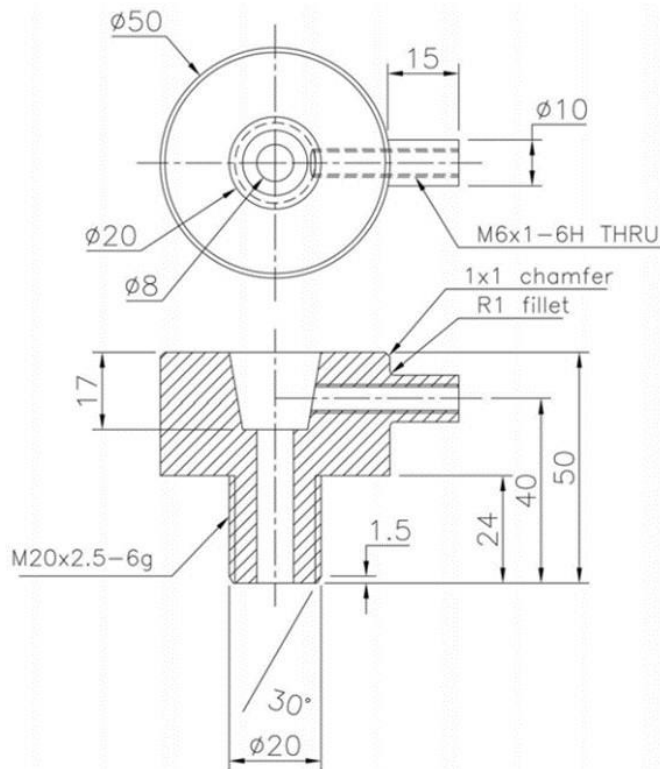

Figure 1 (e): Connector
- d) Figure 1 (e) is a CAD design of a connector.